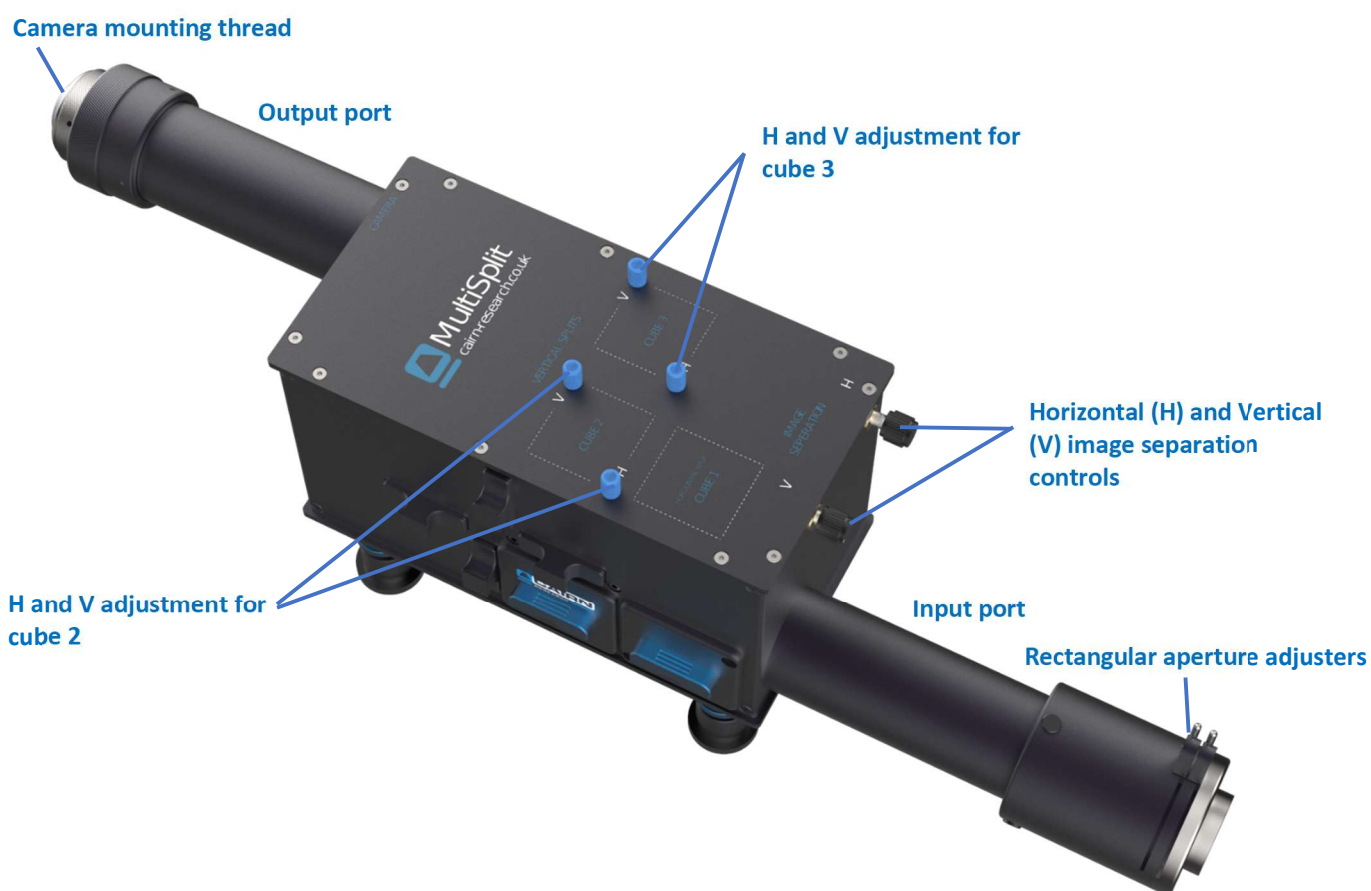

Figure 1: MultiSplit top panel
5. Re-position this image using the **horizontal (H) and vertical (V) image separation controls** show in *Figure 1*.
- Using the blue thumb screws labelled **H and V adjustment for cube 2** in *Figure 1*, re-position this image to the correct quadrant.
- Using the blue thumb screws labelled **H and V adjustment for cube 3** in *Figure 1*, re-position this image to the correct quadrant.